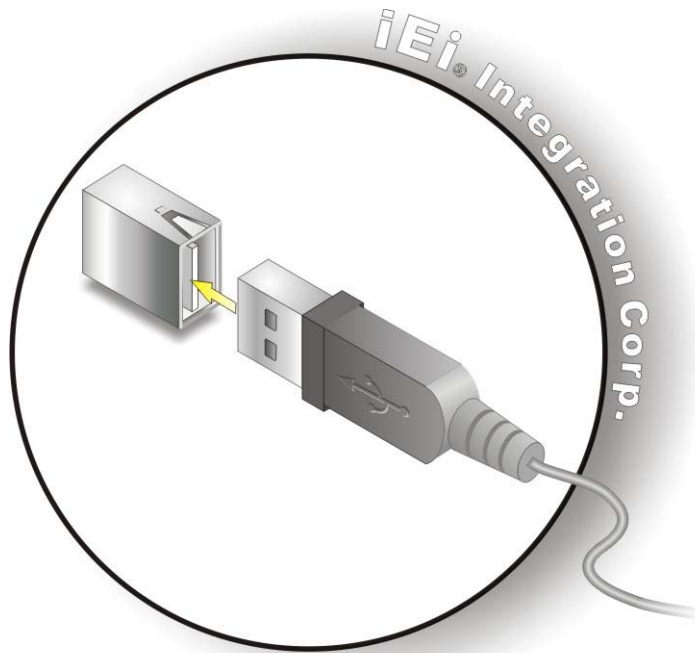

Figure 4-17: USB Device Connection
Step 2: Align the connectors. Align the USB device connector with one of the connectors on the SPCIE-C2060 Series. See **Figure 4-17**.